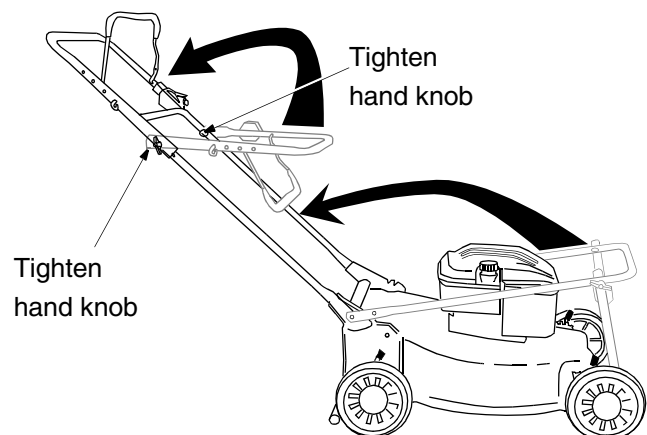

Figure 3
- Tighten the hand knobs securing upper handle to lower handle (carriage bolts must be seated properly into the handle). See Figure 3.